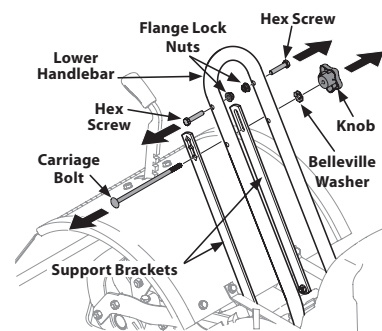

Figure 1
1. Remove two hex screws (5/16-18 x 1.50), two flange lock nuts (5/16-18), carriage bolt (5/16-18 x 6.75), belleville washer (.326 x .875 x .145) and knob (5/16-18) from the lower handlebar and support brackets. See Figure 1.